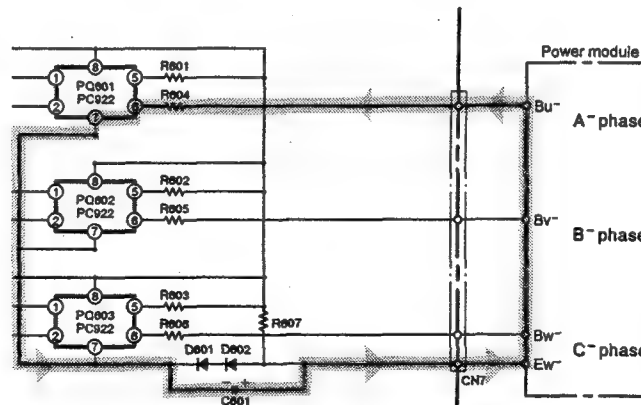

Fig. 7-5
- When pin ③⑤ of the micro computer goes "Hi" → "Lo", a photocoupler between PQ601 pins ① and ② turn off and reverse bias current flows to C601 → power module's Ew⁻ terminals → Bu⁻ terminals → R604 → PQ601 to cut off the lower arm transistors. (Fig. 7-5)
- When the peak current cut off function operates, HIC-1 ③① pins become 0V, PQ501-PQ503 and PQ601-PQ603 turn off and the upper/lower arm drive circuits stop.
- When a reset signal is applied, HIC pins ⑦ and ③② become open, PQ501-PQ503 and PQ601-PQ603 turn off and the upper/lower arm drive circuits stop.